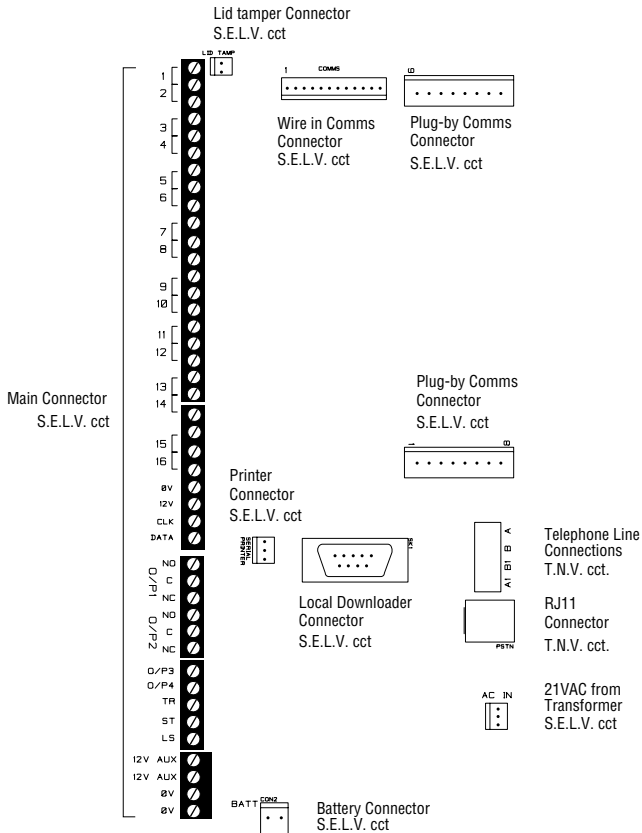

Figure 19. SELV and TNV Connectors on the 9851
*Note: The labels "SELV" and "TNV" which are shown in Figure 19 are for reference only and do not appear on the 9851 main pcb.*
If the telephone line is already terminated with a suitable lead and plug then insert the plug into the RJ11 connector (see Figure 19).